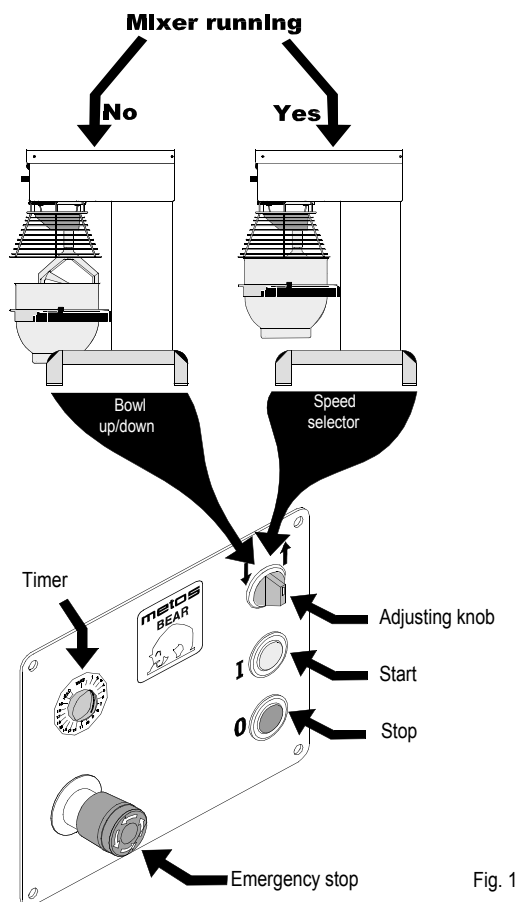

Fig. 1
The operation panel is provided with an adjusting knob with two functions (fig.1):
- E To lift up the bowl, turn the adjusting knob clockwise (arrow up) (fig.1). The bowl will stop in its top position.
- F Set the timer to TIME or HOLD (fig.1).
- G Press start (fig.1).
- H Turn the adjusting knob (fig.1) until the required speed has been found, the speed can be read from the indicator on the side of the mixer.
- Release the emergency stop (fig.1) by turning it counter clockwise.